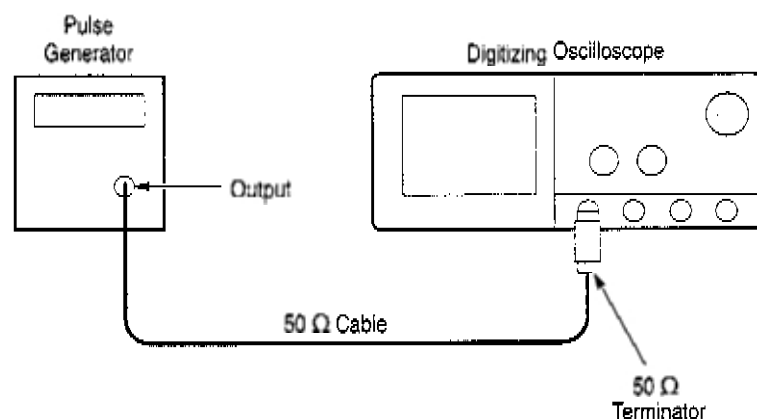

Figure 1-37: PG502 Setup for Sync Duty Cycle Test
- Connect the pulse generator (PG502) through a 50 Ω cable and a 50 Ω terminator to the oscilloscope CH1 input. See Figure 1-37.